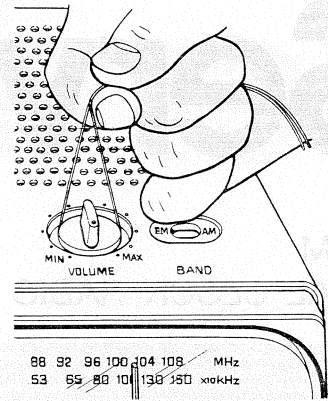

Fig. 1
- 1. Remove the six (6) knobs for the set time, set alarm, sleep, selector, tuning and volume. (To remove those control knobs, wind a cord around the control and pull it outward as shown in fig. 1.)